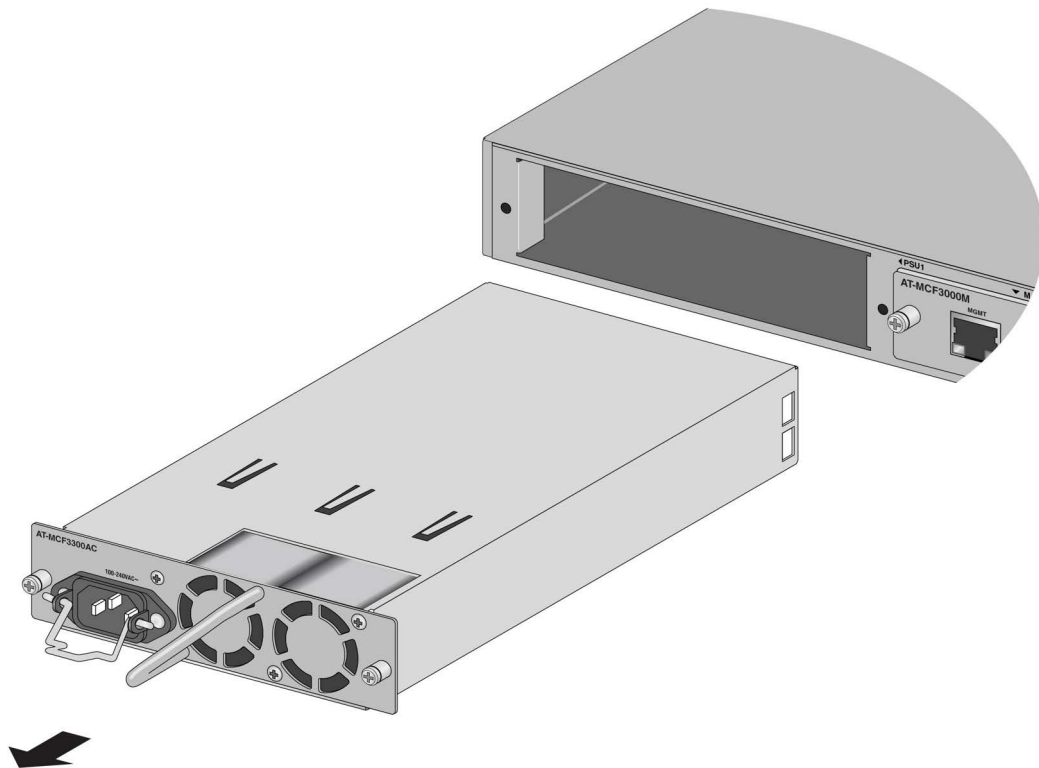

Figure 75. Sliding the MCF3300AC Power Supply from the Chassis
6. Slide the power supply out from the chassis. Refer to Figure 75.